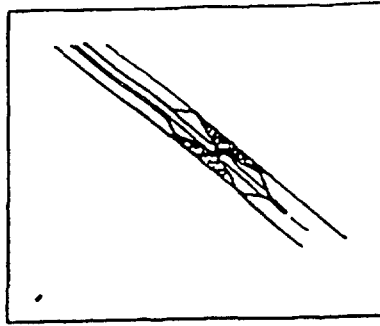

Figure 5 Test inflation prior to initial dilatation (dumbbell effect evident.)
10. Hold the guide wire stationary, and advance the dilatation catheter over the guide wire and into the stenosis. The radiopaque balloon marker and a very low pressure (10 to 20 psi) balloon inflation should be used to confirm that the indentation caused by the stenosis is centrally located within the balloon segment before proceeding with the dilatation (Figure 5).